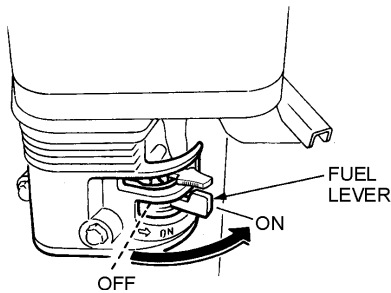

Figure 8. Engine Fuel Lever (ON Position)
2. Place the engine fuel lever to the ON position. (Figure 8).